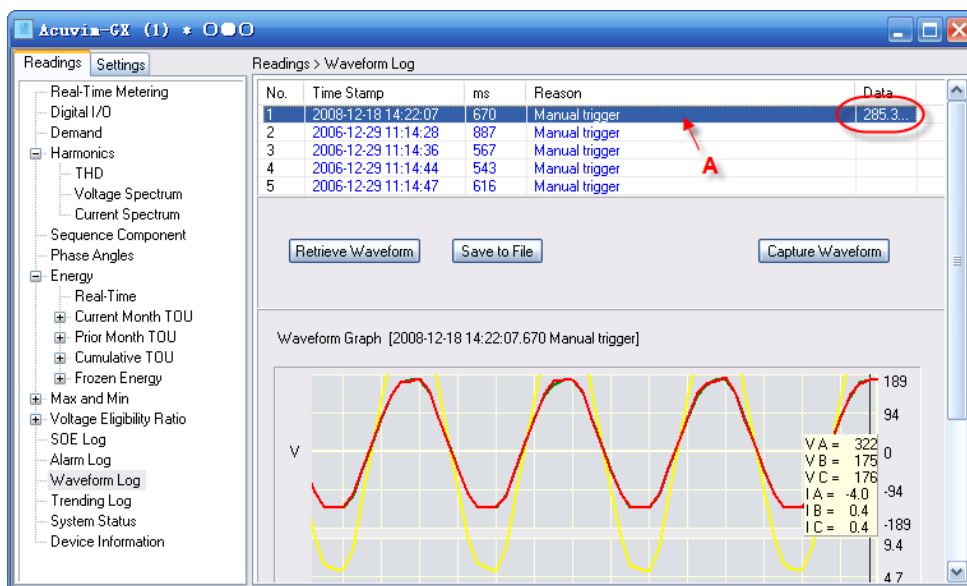

Figure 14: Waveform log (2)
2) You may select an item whose data is not empty, then its waveform will be displayed as shown in figure 14. The A means to click an item with data.